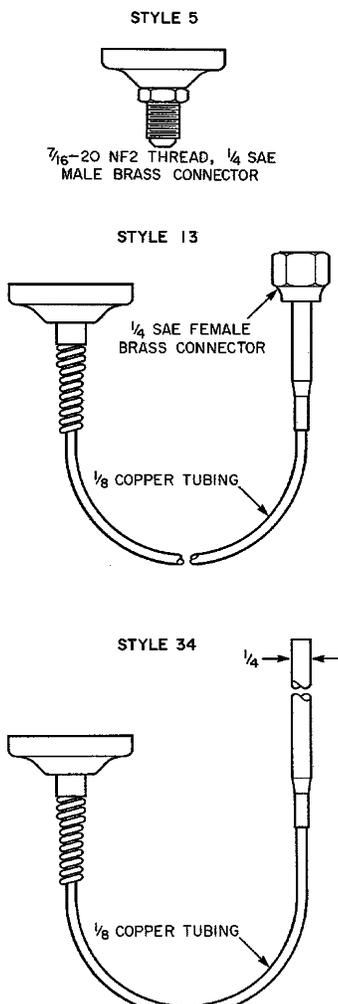

Fig. 3 — Pressure sensing element styles available for the P45. Style 13 is standard.
Standard controls supplied with 36 in. (914 mm) capillary tubing with 1/4 in. flare nut (Style 13). Controls with 1/4 in. SAE male connector (Style 5) or 36 in. (914 mm) capillary and 1/4 in. sweat connection (Style 34) may be supplied on quantity orders, when specified. See Fig. 3.
- a. Connector Style 5, Style 13 or Style 34. See Fig. 3.